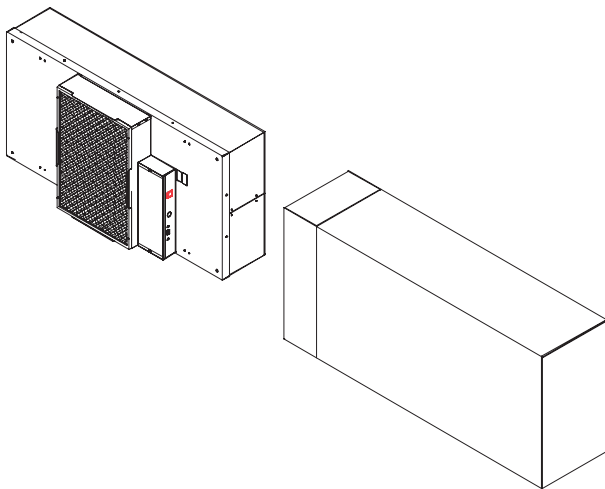

Figure 1: Unboxing
Step 1. Carefully remove the unit from the shipping carton and inspect for any damage that may have occurred during transportation (See Figure 1).